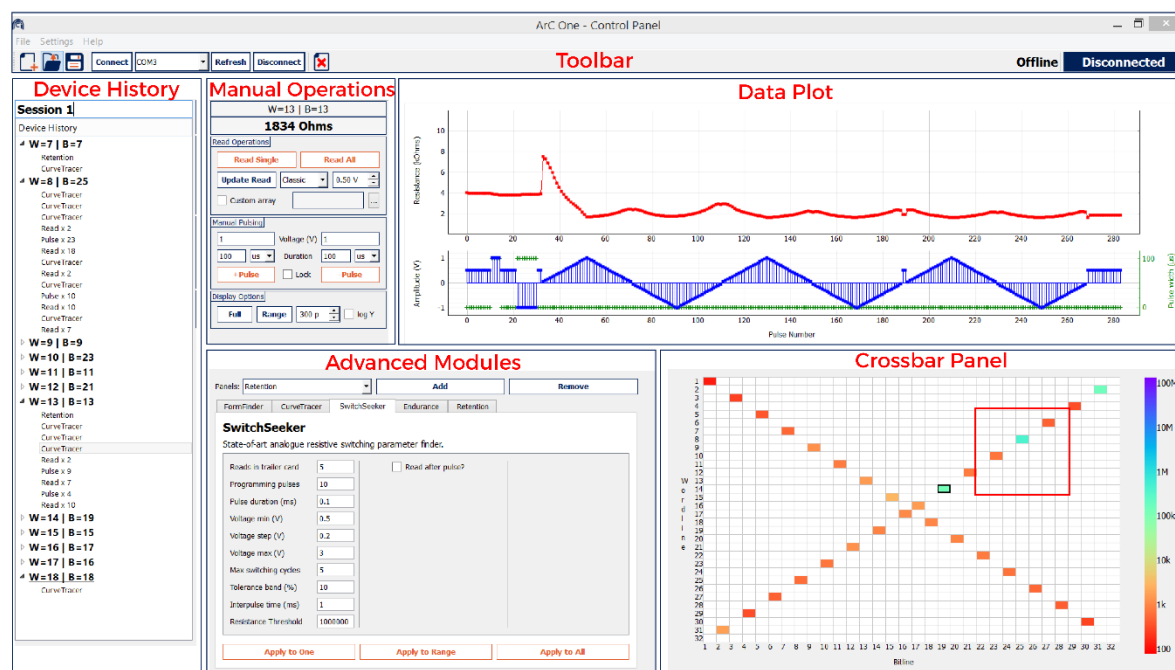

Figure 3: At a glance – functional panels of the ArC ONE GUI
3. **TIA4P**: RECOMMENDED - Kelvin sensing at a programmable voltage (Figure 3);